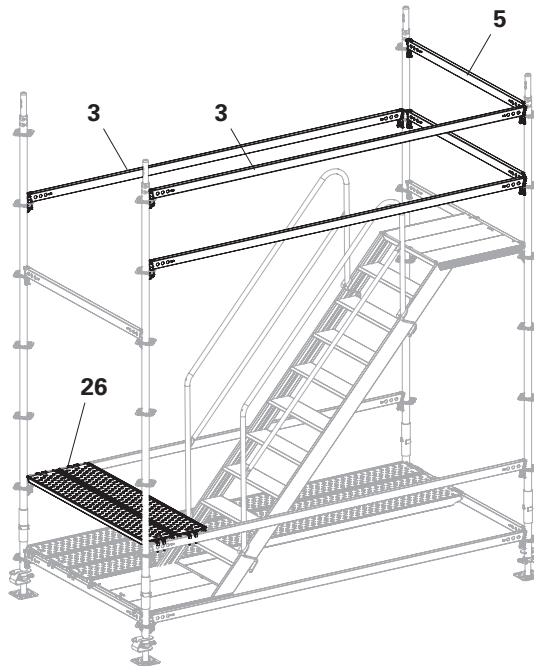

Fig. B3.09
2. From the position of the Flex Stair (**15**) and steel decks (**26**), fit 3 x Horizontal Ledgers UH-2 300 (**3**) and 2 x UH-2 150 (**5**). (Fig. B3.09)